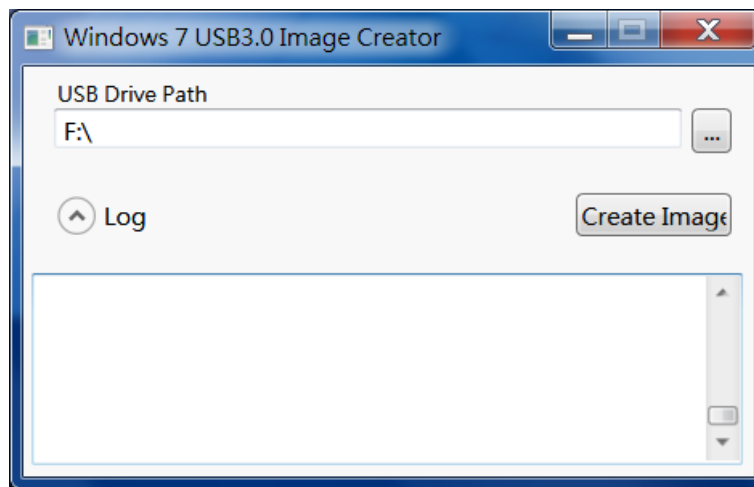

Figure 4-17: Windows 7 USB 3.0 Creator Utility
- Step 6:** The Windows 7 USB 3.0 Creator Utility screen appears (**Figure 4-17**). Click  to browse to the root of the USB drive containing the Windows 7 image.